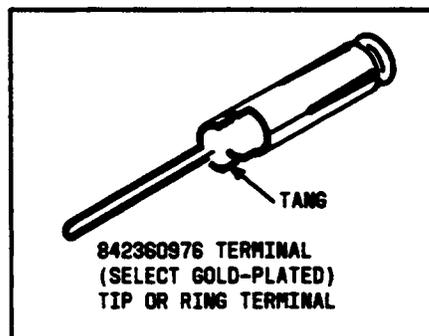

Figure 12. Tip or Ring Terminal
**7.09** To replace a tip or ring terminal (Figure 12), proceed as follows: